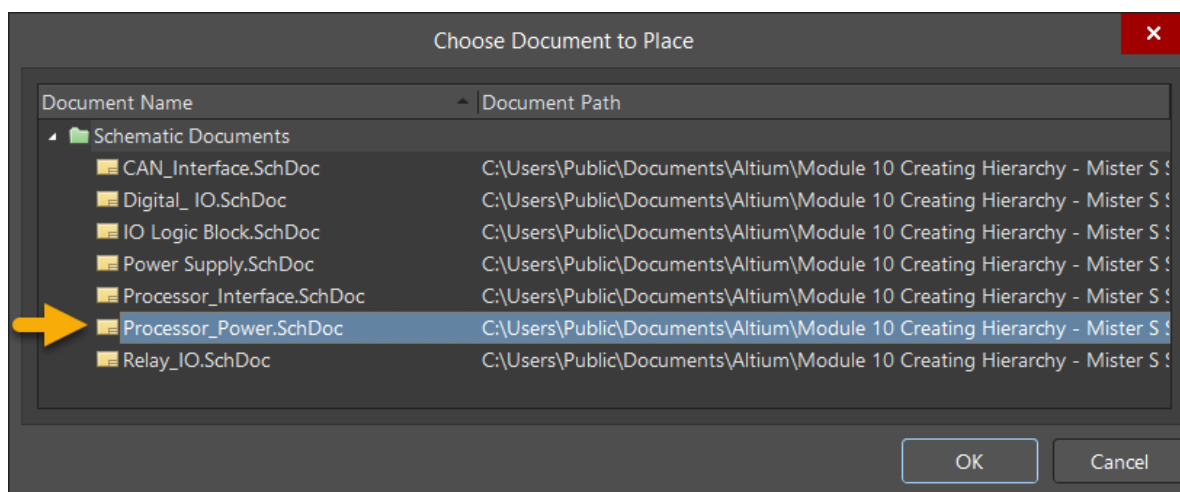

Figure 1. Choose Document to Place as a Sheet Symbol
13. Select the `Processor_Power.SchDoc` from the dialog and select **OK** as shown in Figure 1 below.